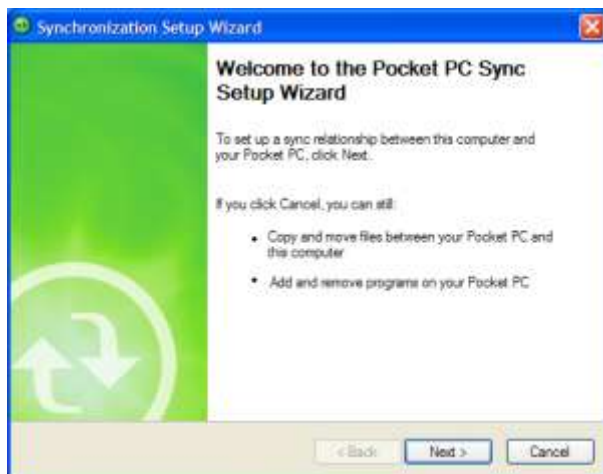

Figure 79: Synchronization Setup Wizard.
1. Upon connection of your PDA to your computer, you will hear the ActiveSync connection tone and the Synchronization Setup Wizard window will appear (Figure 79).